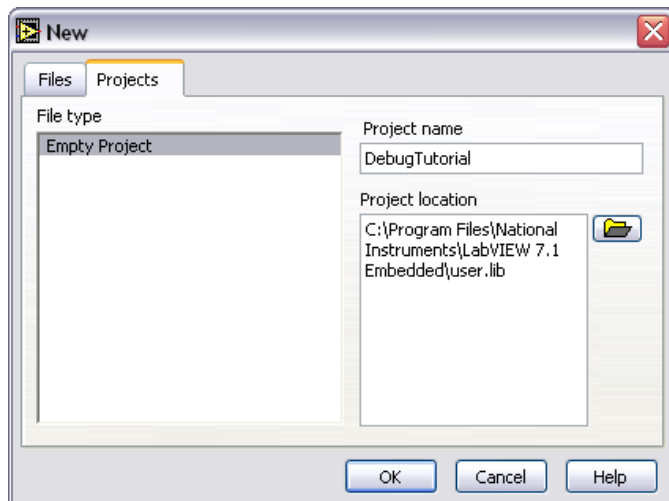

Figure 6. Embedded Project Manager New Dialog Box
2. Select **File»New** in the **Embedded Project Manager** window to open the **New** dialog box as shown in Figure 6.